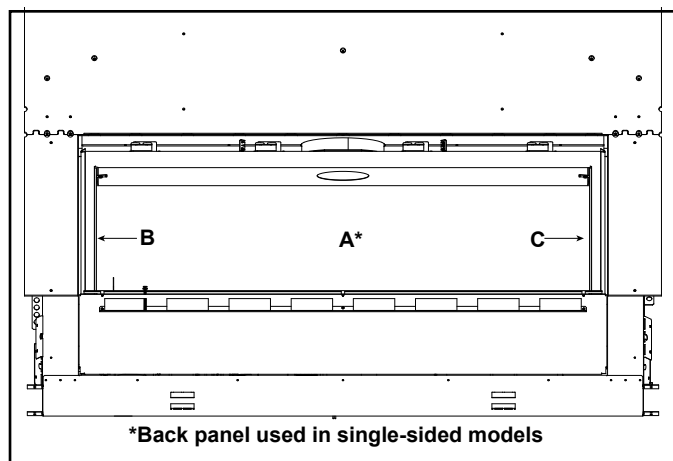

Figure 1 Placement of Glass Panels
- ➔ 1. Set back glass panel, labeled A in Figure 1, into firebox on top of the two back glass spacer blocks, with the smooth side of the glass facing outward. Position the retaining bracket inside appliance as shown in Figure 3. Line up the hole in the heat shield with the hole closest to the bend in the bracket and secure in place with a screw. See Figure 2 and Figure 3.
4. Install the left side panel, labelled “B” in Figure 1, by sliding it into place from the front. While installing, press the panel firmly against the firebox side.
1. Set left side glass panel, labeled B in Figure 1, into firebox with the smooth side facing outward.